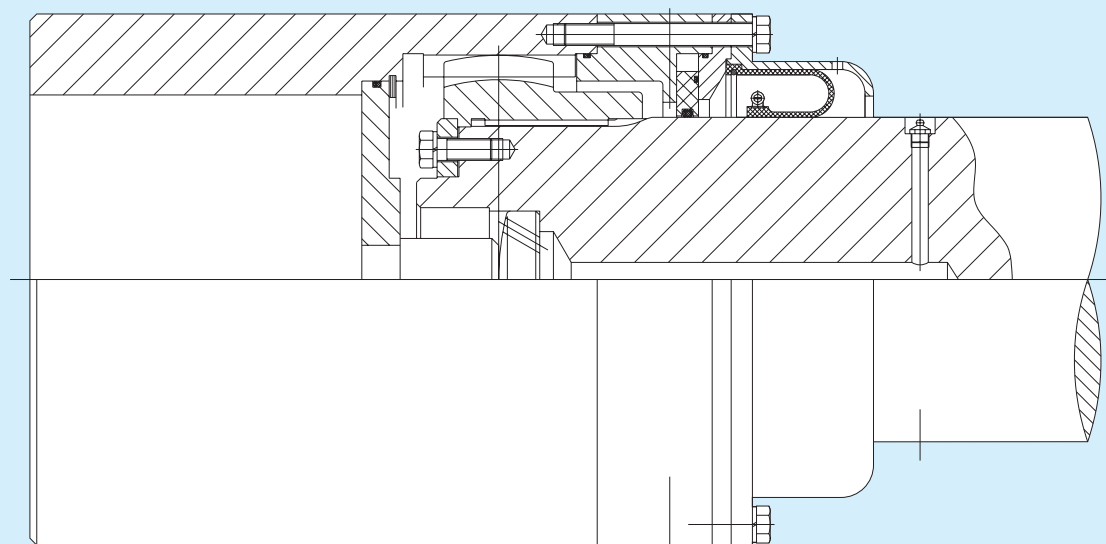

Fig. 2 Special seal
2) Special seal, which assures a complete grease unleackage under the worst working conditions is shown in fig.2: